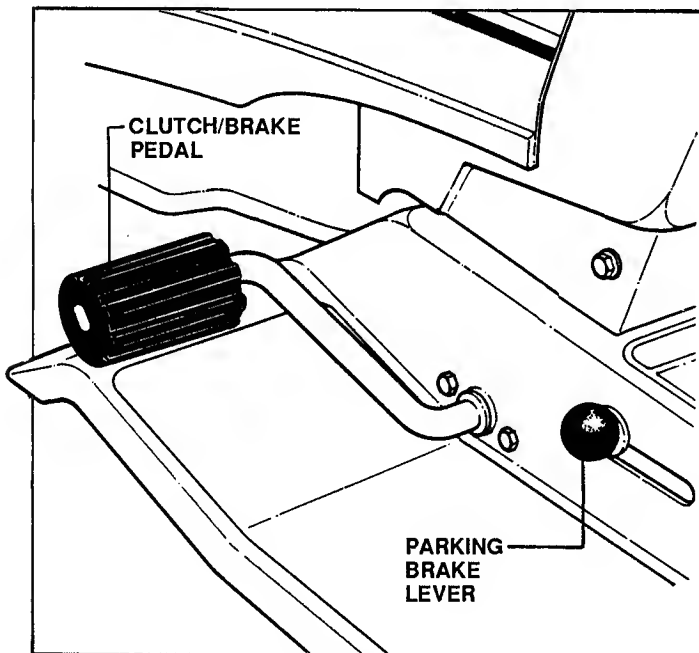

FIGURE 3
**WHEEL DRIVE:** *STOP FORWARD MOTION* of mower by pushing Clutch/Brake pedal all the way down. See Figure 3.